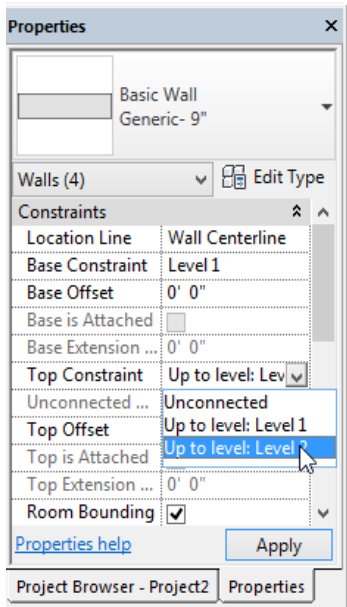

Figure 3-58 Setting the Top Constraint parameter using the Properties palette
- Invoke the **Rectangle** tool and then sketch the exterior walls based on the given parameters, refer to Figures 3-58 through 3-62.
1. In the **Properties** palette, ensure that the **Location Line** parameter has **Wall Centerline** as the default value. Click in the value field of the **Top Constraint** instance parameter; a drop-down list is displayed. Select **Up to Level: Level 2** from the drop-down list displayed, as shown in Figure 3-58 and choose the **Apply** button.